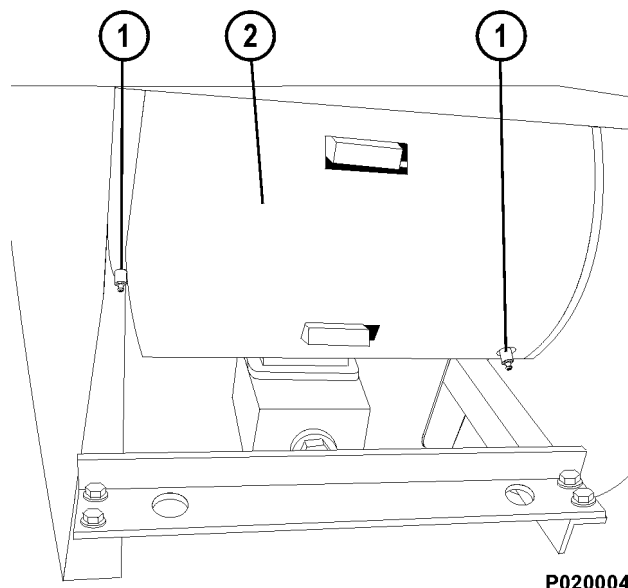

FIGURE 4-2. AUXILIARY BLOWER
6. **AUXILIARY BLOWER** - Apply a few applications of grease to auxiliary blower bearings. There are two grease zerks (1, Figure 4-2) located on the auxiliary blower (2).